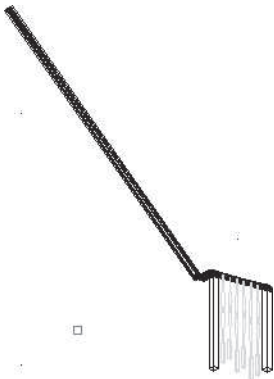

FIGURE 9.75 Railings added to stair
14. Select the handrail and guardrail, right-click, and choose **Isolate Objects** from the Isolate Objects flyout of the **General** panel of the **Railing** tab. Choose **SW Isometric** from the View Cube to view the railings as shown in Figure 9.75. Choose **End Object Isolation** from the **Isolate Objects** flyout in the General panel of the Railing contextual tab. Choose **Top** from the **View** Cube.